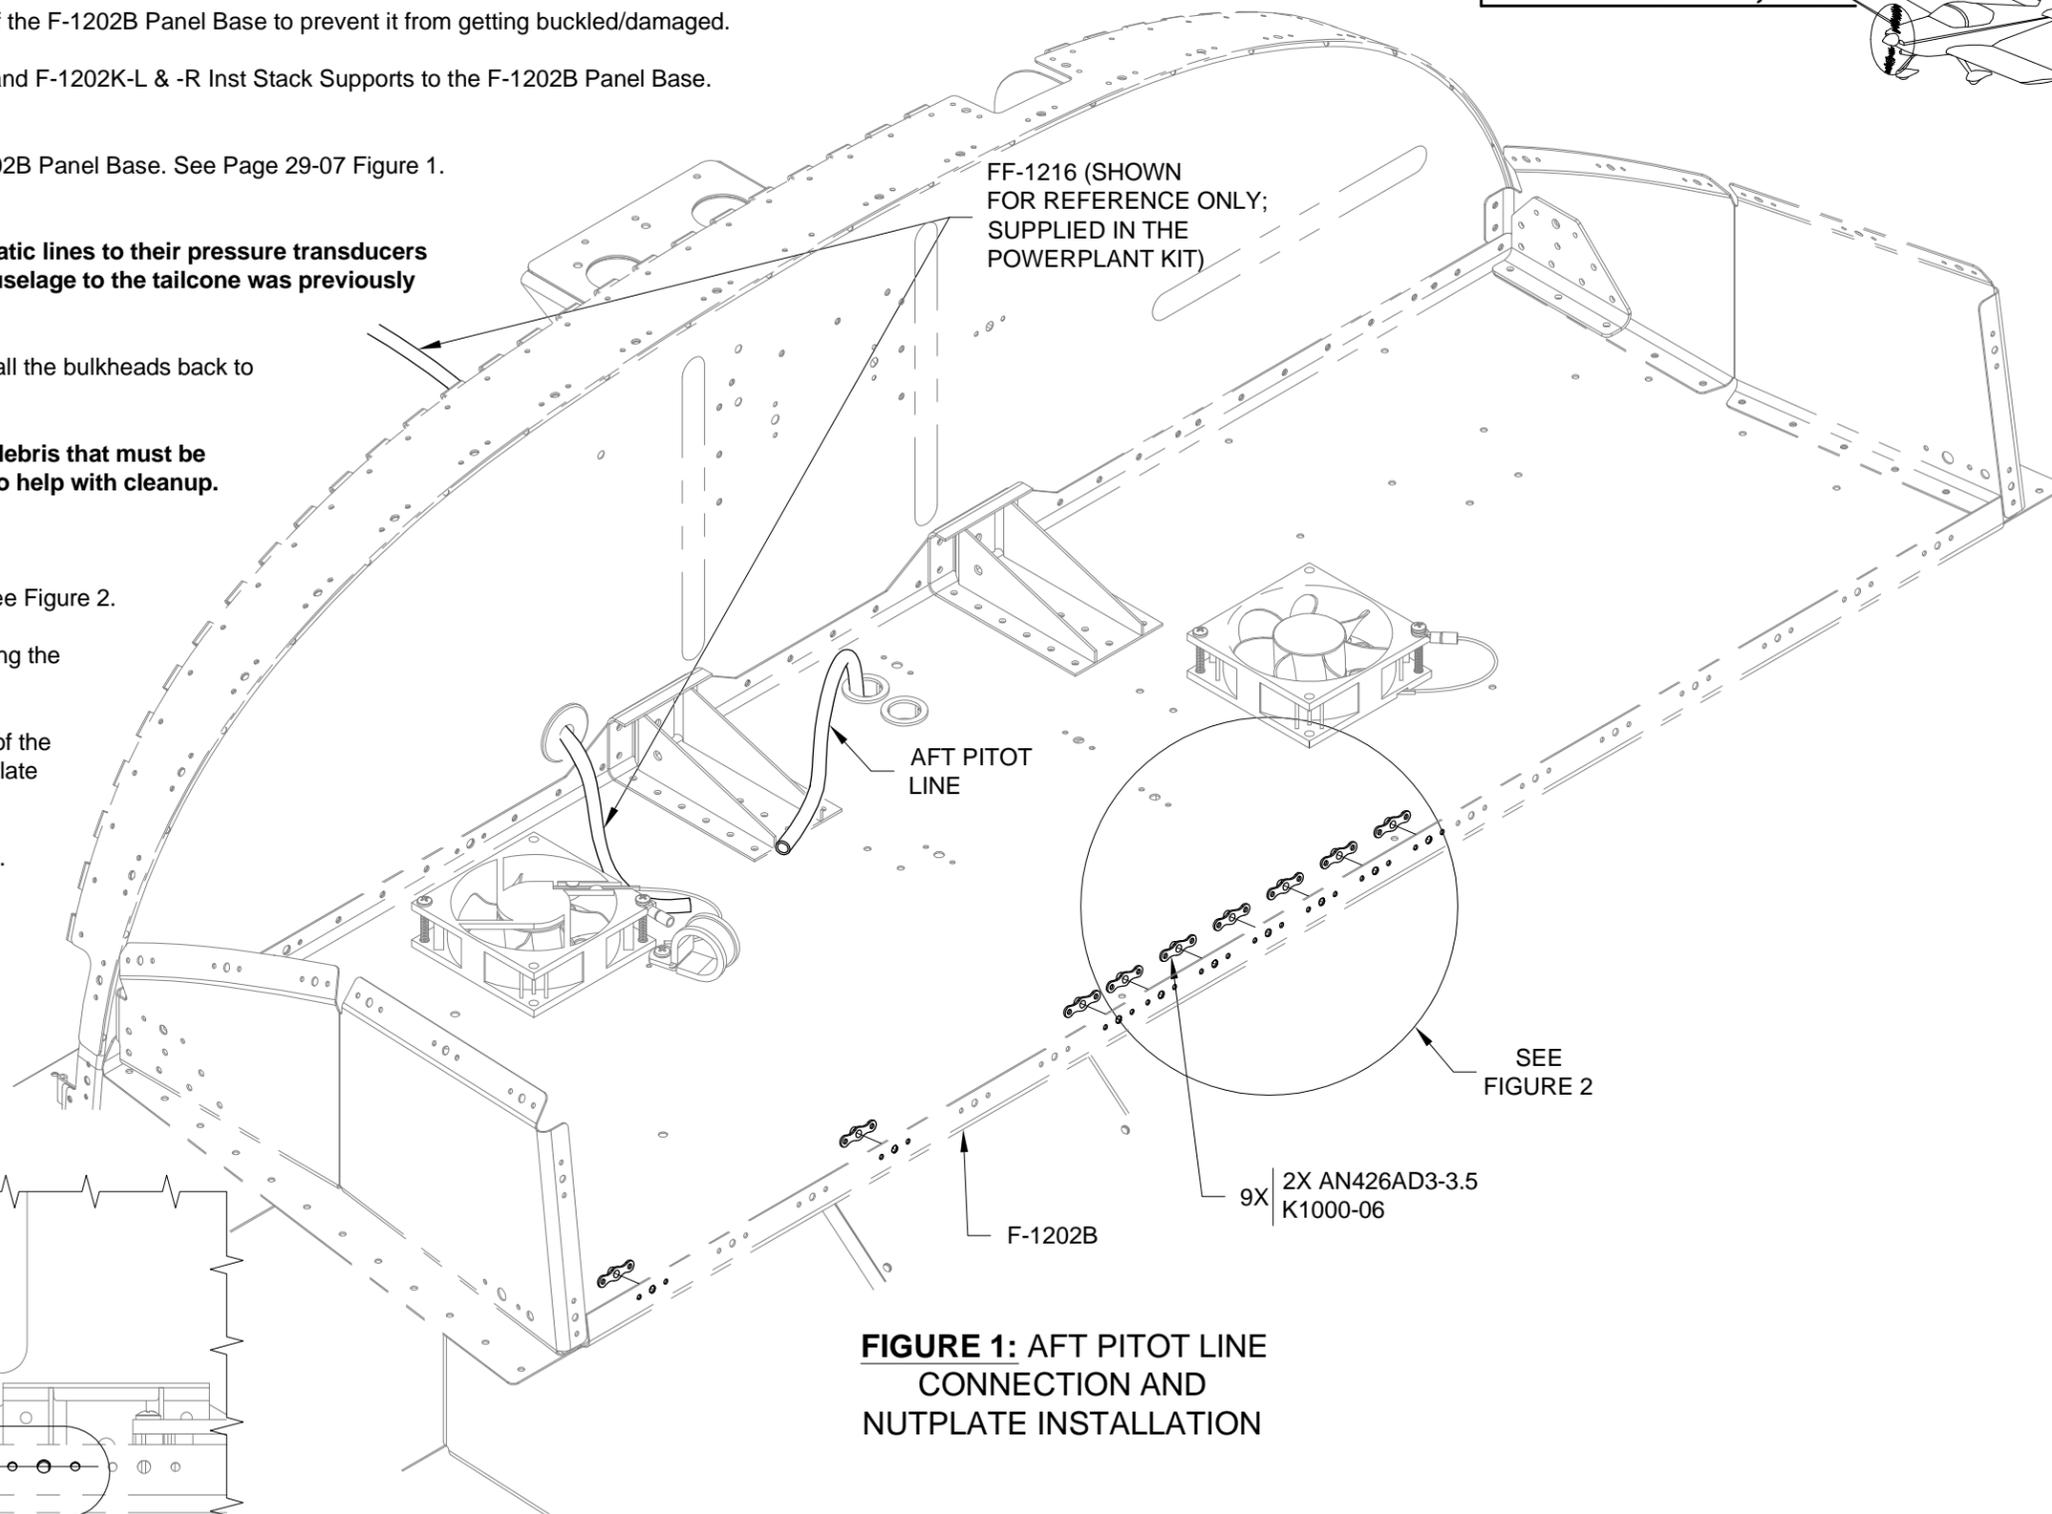

FIGURE 1: AFT PITOT LINE CONNECTION AND NUTPLATE INSTALLATION
Step 7: Dimple then rivet nutplates to the F-1202B Panel Base as shown in Figure 1.